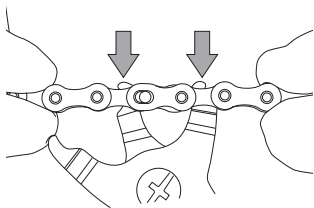

Fig.10
- Fit the connecting link closing calliper with teeth less than 1.8 mm thick into the inner links adjacent to the C-Link™ (Fig. 10).